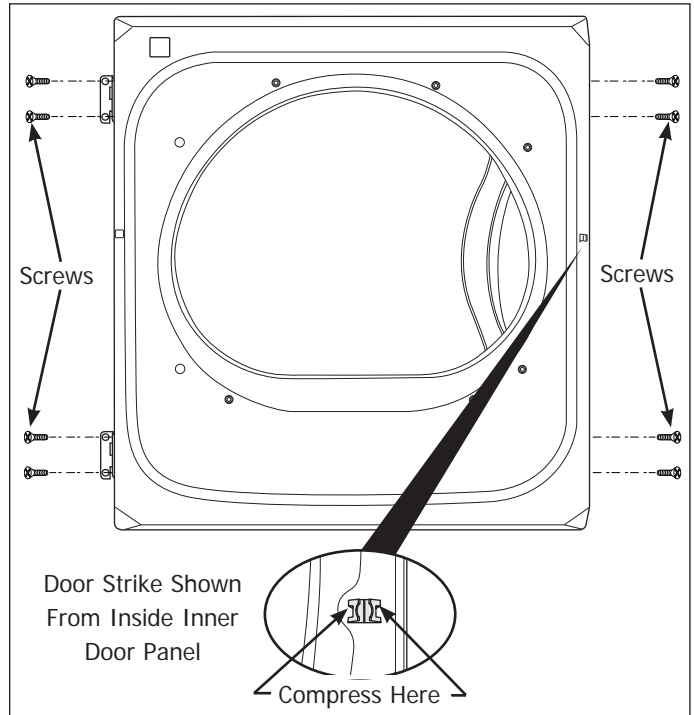

Figure 4-8.
The hinges are removed by extracting the two screws using a Phillips head screwdriver that secure each hinge to the door assembly. (See Figure 4-8)
To disassemble the door assembly: (See Figure 4-8)
5. The door strike is removed by using a pliers and compressing the door strike and then pushing it through the inner panel. (See Figure 4-8)